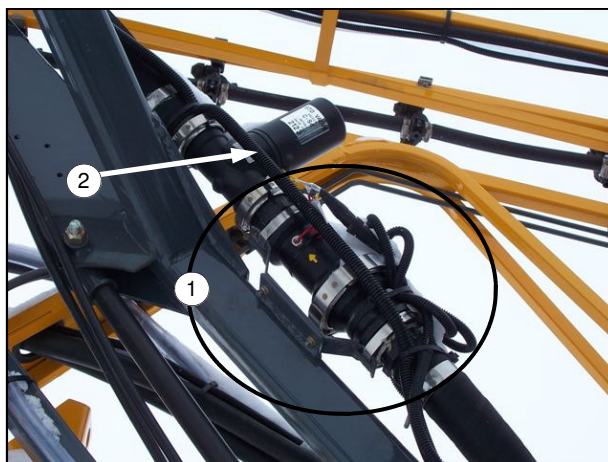

FIG 44-1
**Flow meter**– The flow meter (fig. 44-1, item 1) is located in the main solution line. It measures the amount of solution that goes through the solution lines to the booms and sends the information back to the spray monitor. Note the direction of the flow meter if removed.
The control valve (fig. 44-1, item 2), attached to the flow meter, opens or closes depending on the amount of flow being measured and the parameters set by the operator during calibration.